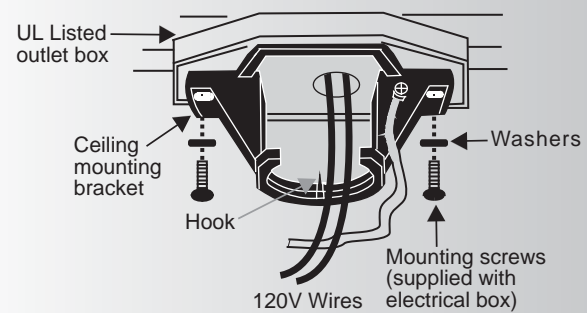

Fig. 6
Step 3. Pass the 120 volt supply wires from the ceiling outlet box through the center of the ceiling mounting bracket. (Fig.6)
Step 4. Attach the ceiling mounting bracket to the outlet box using the screws and washers included with the outlet box. (Fig. 6)